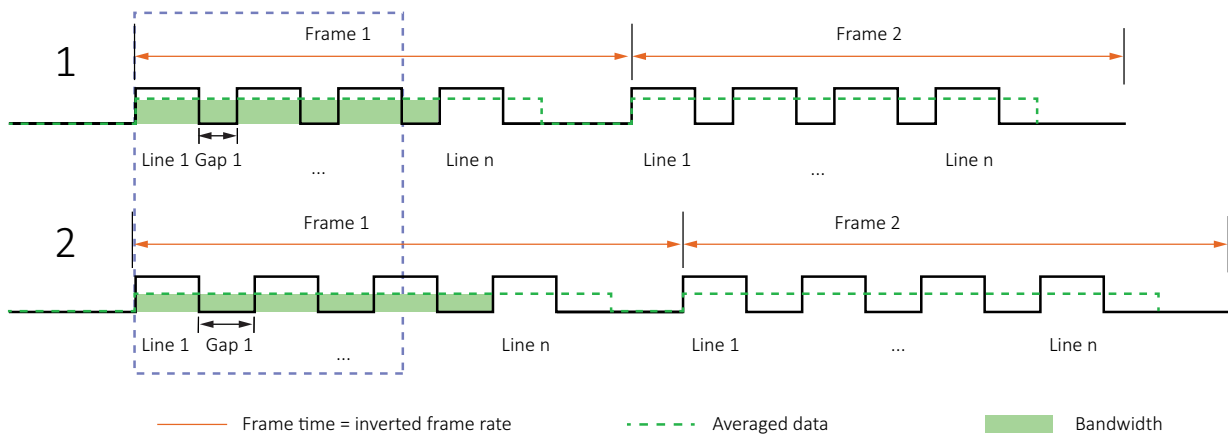

Figure 131: Sensor data output and camera data output
Figure 131 shows the bandwidth for a higher (1) and a lower (2) value for `DeviceLinkThroughputLimit`.